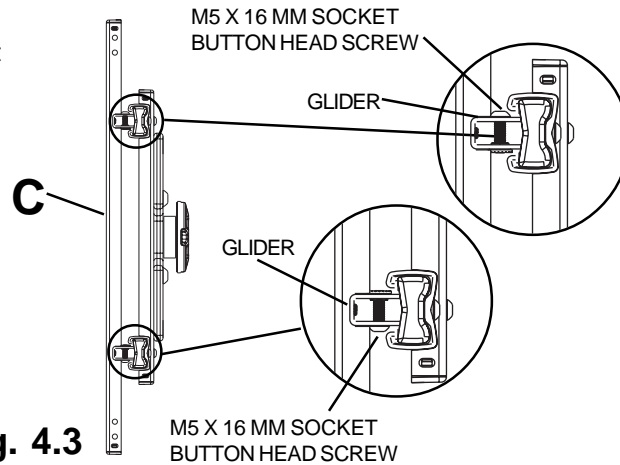
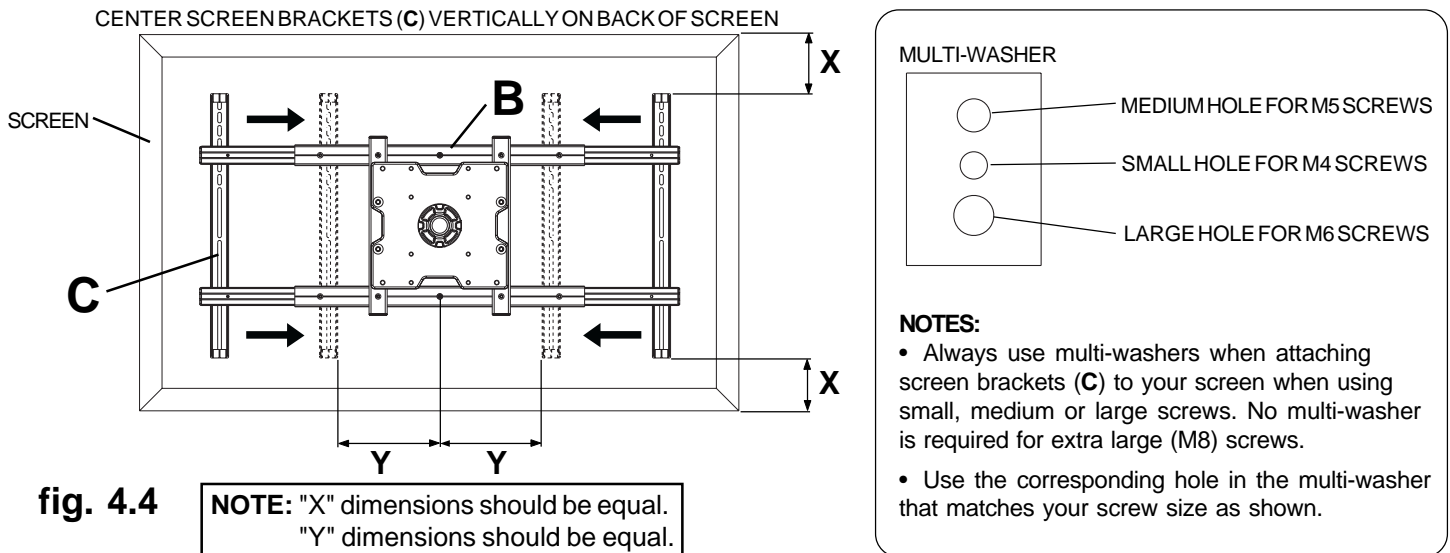

fig. 4.3
fig. 4.4
- 4-4** **NOTE:** Refer to page 9 for adjustments of universal adapter bracket (B) extension brackets.
To prevent scratching the screen, set a cloth on a flat, level surface that will support the weight of the screen. Place screen face side down. Refer to screen manufacturers instructions for removal of knobs, base, cover, or screw(s) on the back of the screen to prepare for mounting screen brackets (C) to screen. Adjust screen brackets (C) to align with screen mounting holes as shown in fig. 4.4. Select the small, medium, large or extra large screws from the baffled fastener pack then attach screen brackets (C) to screen following figure 4.5 or 4.6 on page 11. Retighten M5 x 16 mm glider screws as shown in fig. 4.3.